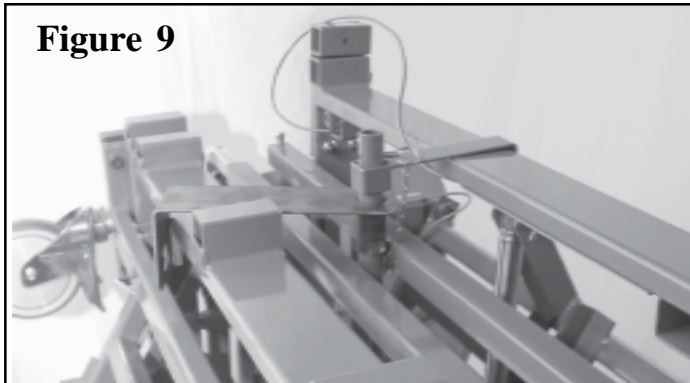

Figure 9
3. Remove the “L” shaped foot end transport latch located on the transport pole. (see figure 9)